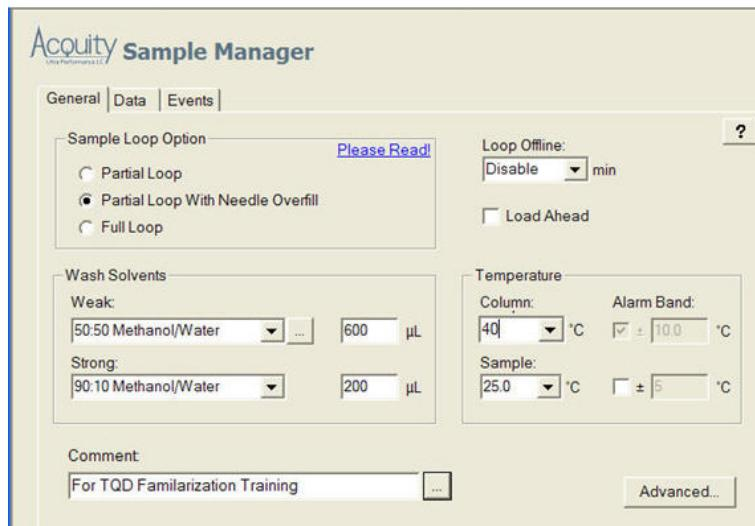

Figure 10 - Instrument Method Editor
10. Set the acquisition conditions shown in Figure 10 for this analysis.